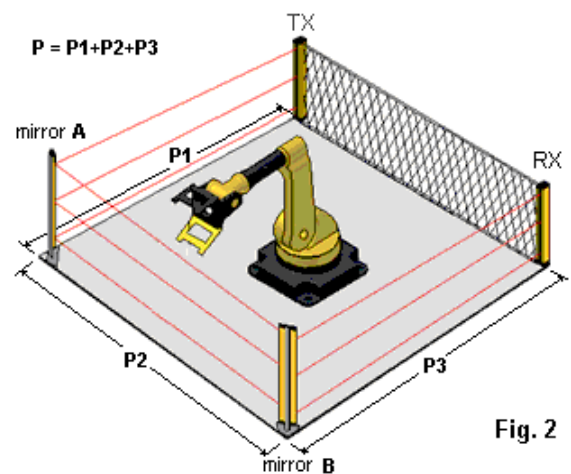

Fig. 2
- Protection to “U” shape when the barrier must protect 3 sides with employ of 2 mirrors as fig. 2